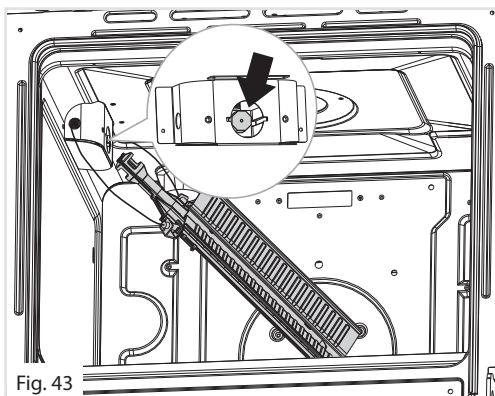

Fig. 43
- Withdraw the burner as shown in figure 43. Take care not to damage the safety valve probe and the electric ignition electrode.
- Using a 7 mm box spanner, unscrew the injector (indicated by the arrow in fig. 43) and replace it with a new one selected in accordance with the "Table for the choice of the injectors".